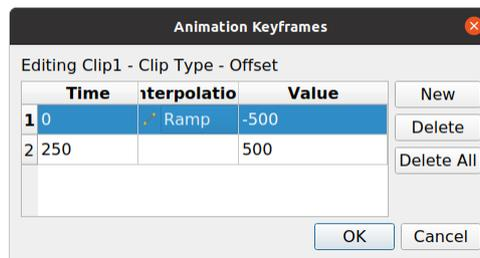

Fig. 2.80: The value range of interest for an animation can be specified in this dialog.
- Double-click on the new **Clip1 - Clip Type - Offset** button to open a dialog that allows to specify the value range for the offset within the animation, as shown in Fig. 2.80.